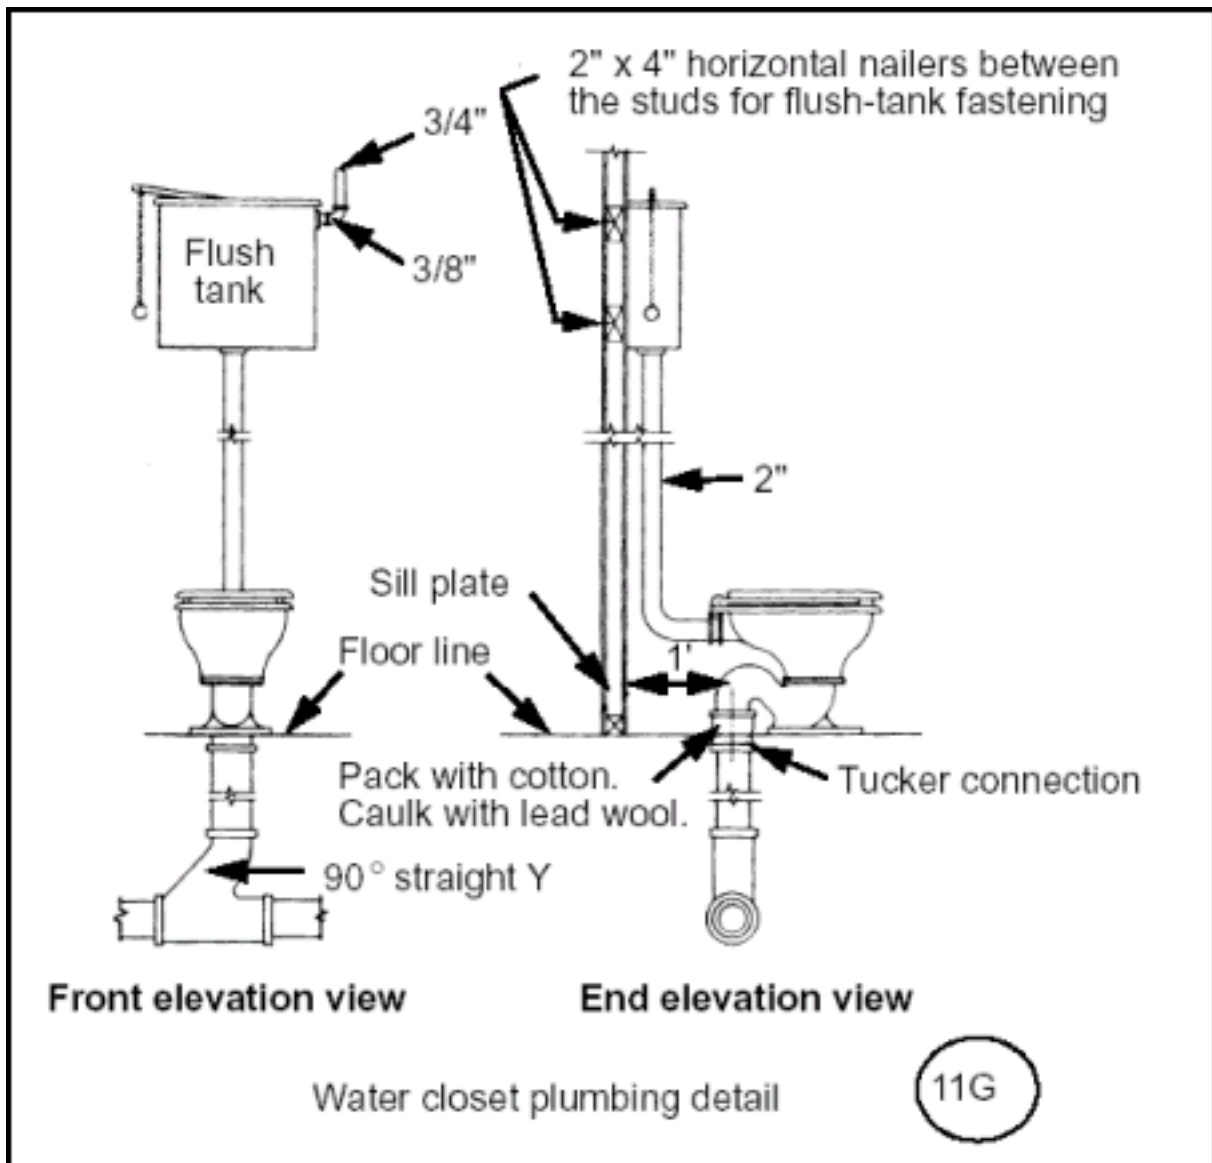

Figure B-3. Standard Detail Drawings (Bathhouse and Latrine)
- A standard detail drawing of a water closet installation (Figure B-3).